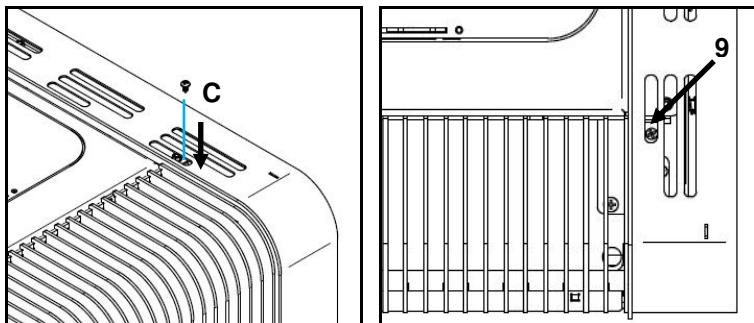

Figure 41 - Assembly of Aspen covers
- i) Finally, screw C (DIN 7981 4,2x9,5), in hole 9, as shown in Figure 41.